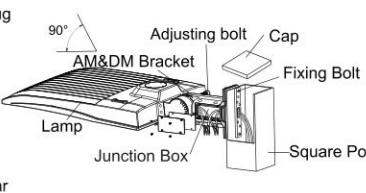

Figure 22
Step 2: Fix A&D bracket to square pole with bolt, open the cover of A&D bracket junction box, pull the wire into bracket junction box, connect the wire properly and cover the junction box. (Figure 22)
Notice: Adjustable angle is 0-90°.(Figure 22)